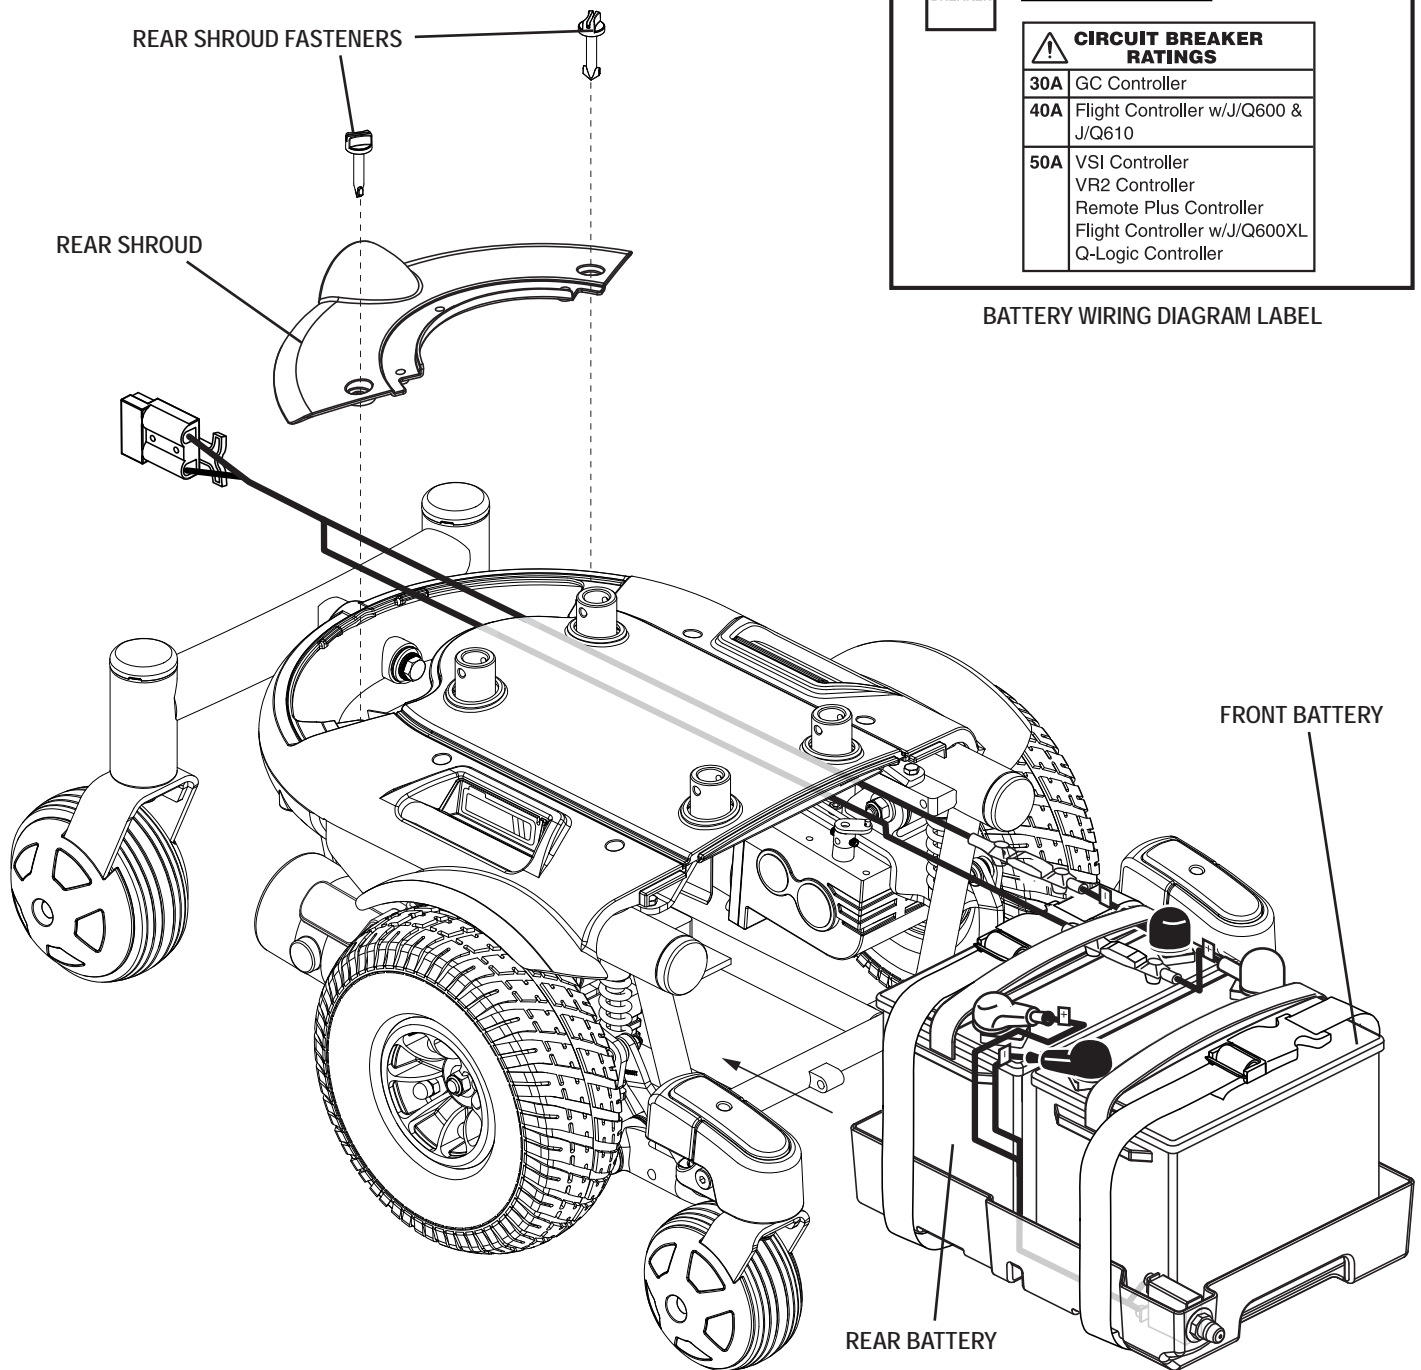

Figure 22. Battery Installation
4. Remove the rear shroud. **See figure 22.**
13. Connect the battery harness to the front battery according to the battery wiring diagram. **See figure 22.**